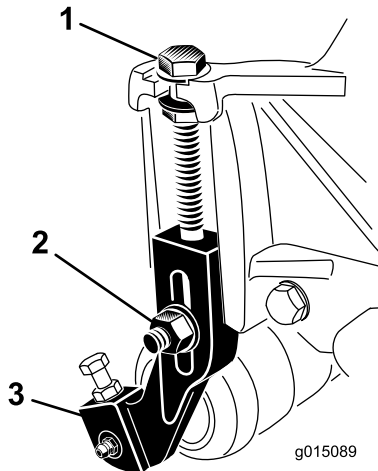

Figure 14
1. Loosen the locknuts securing the height-of-cut brackets to the cutting-unit side plates (Figure 14).